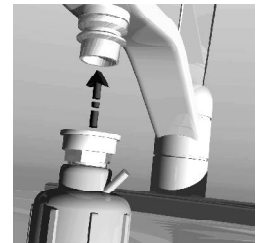

Fig.2
**Step 3:** Remove and discard the protective cap. While holding down the white lock-ring on the unit, place the top over the end of the new aerator. Release the lock-ring. The unit will clamp into place. See Fig. 2. A slight downward tug on the entire assembly will confirm the connection.